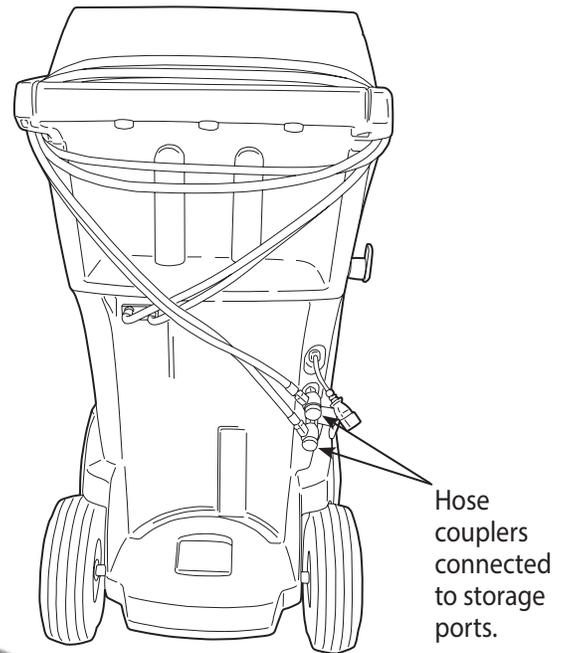

Figure 16
2. Loop the service hoses around the handle twice and attach them to the storage ports. See Figure 16.